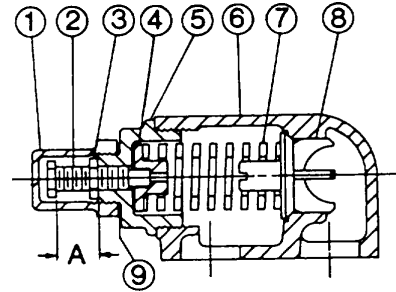

FIGURE 15.
2. Measure and record length of extension of adjusting screw. Refer to "A" on Figures 15 and 16.